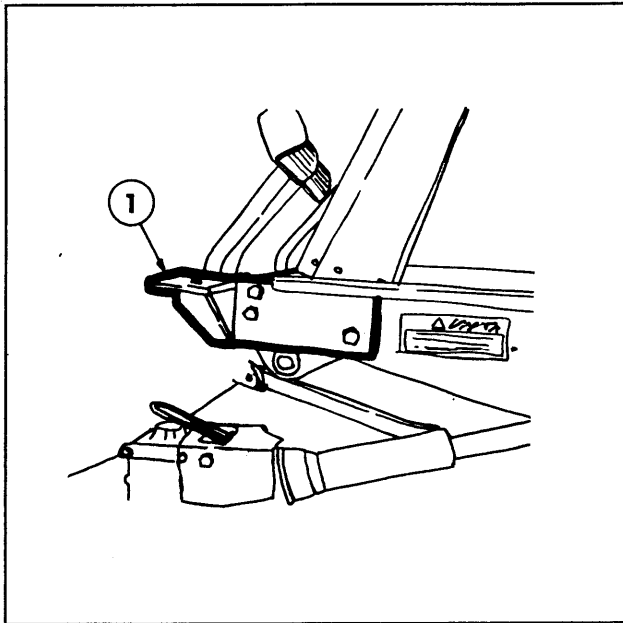

Figure 1
2. Take the left front bracket (1) and position it against the two-hole bolt pattern in the left side of the operator foot platform. Ensure the ROPS mounting plate is towards the front and outside. Bolt the bracket to the platform using the 12x30x1.75mm hex bolt and 1/2" lockwashers supplied. (see Figure 1)
3. Locate the rear hole in the left front bracket (1). Using the hole as a guide drill a 9/16" dia. hole through the platform. Loosely, bolt the bracket to the platform using the 1/2"x2 1/2" hex bolt, hex nut, and lockwasher supplied. (see Figure 1)